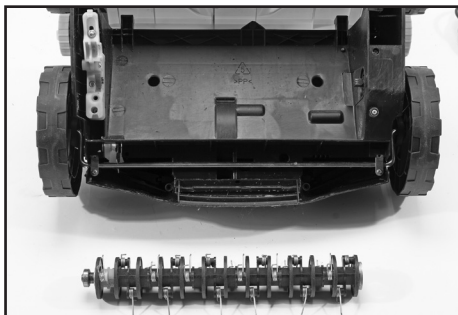

FIG.28
8.7 INSERTING THE AERATOR/SCARIFIER CARTRIDGES (97922) – FIGS.28 – 31